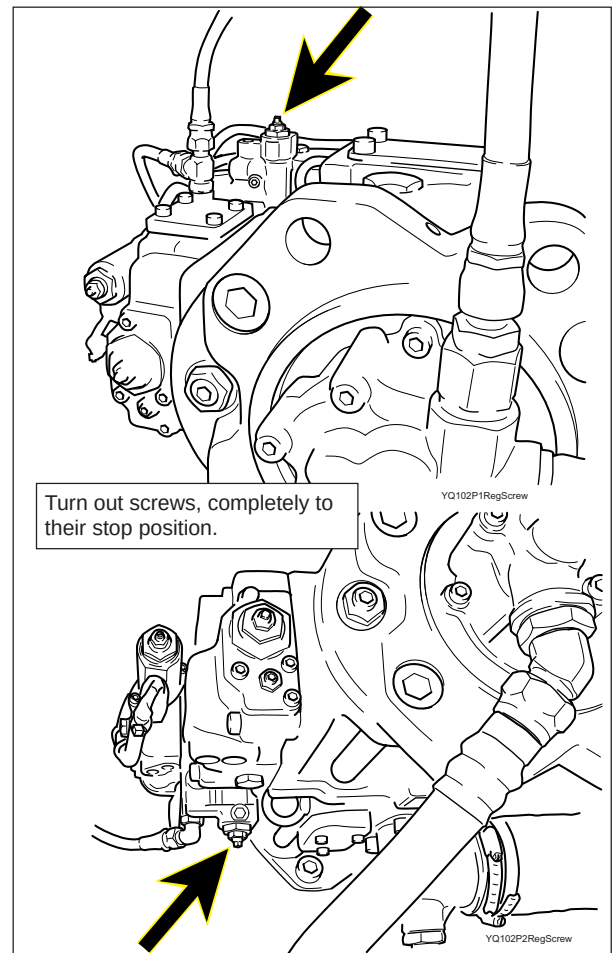

FIGURE 2.24E
5. Use a 13 mm and a 5 mm wrench to back out completely, to stop position, a special screw located on the pump regulators. See Figure 2.24E.